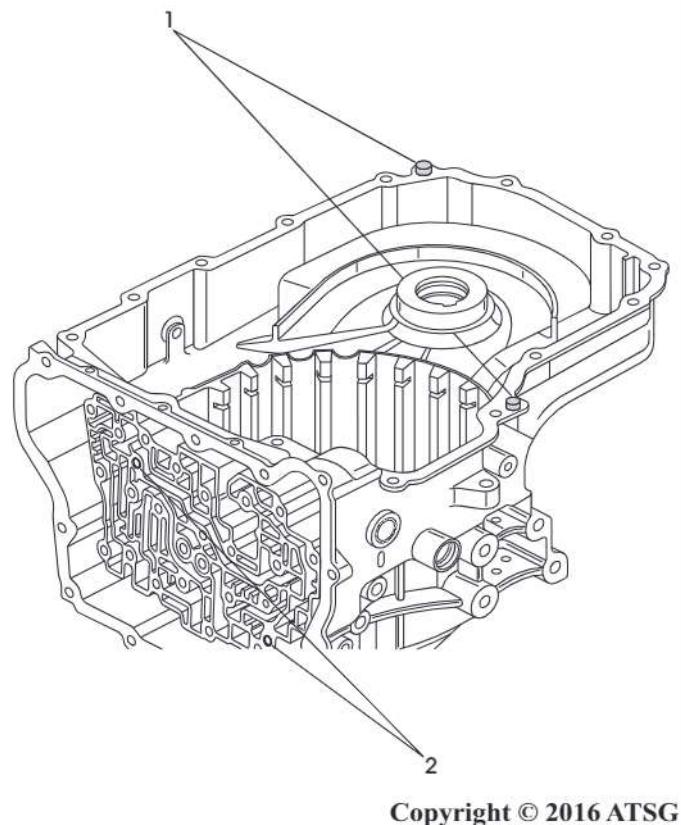

Figure 80
87. Make certain the torque converter housing locating dowel pins are not lost during the cleaning process as shown in Figure 80.
88. Make certain the valve body locating dowel pins are not lost during the cleaning process as shown in Figure 80.